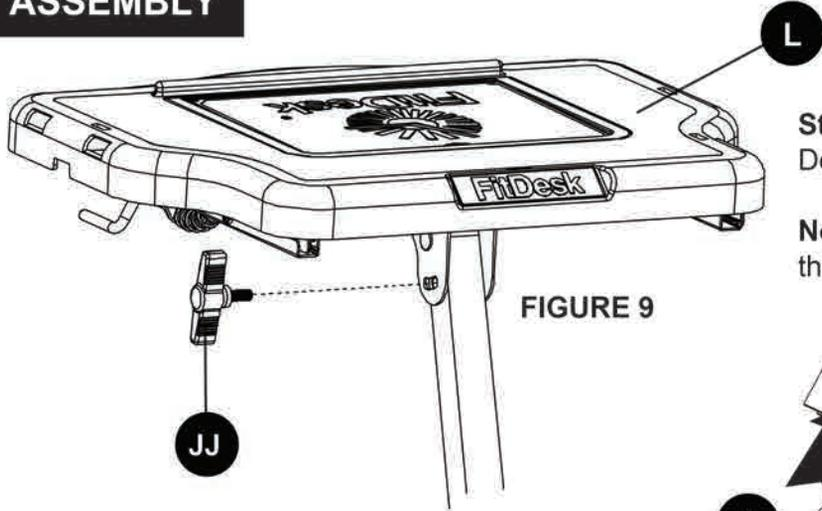

FIGURE 9
Step 9: Insert the Desktop Knob (JJ) into the Desktop (L) and tighten by hand. **Figure 9**